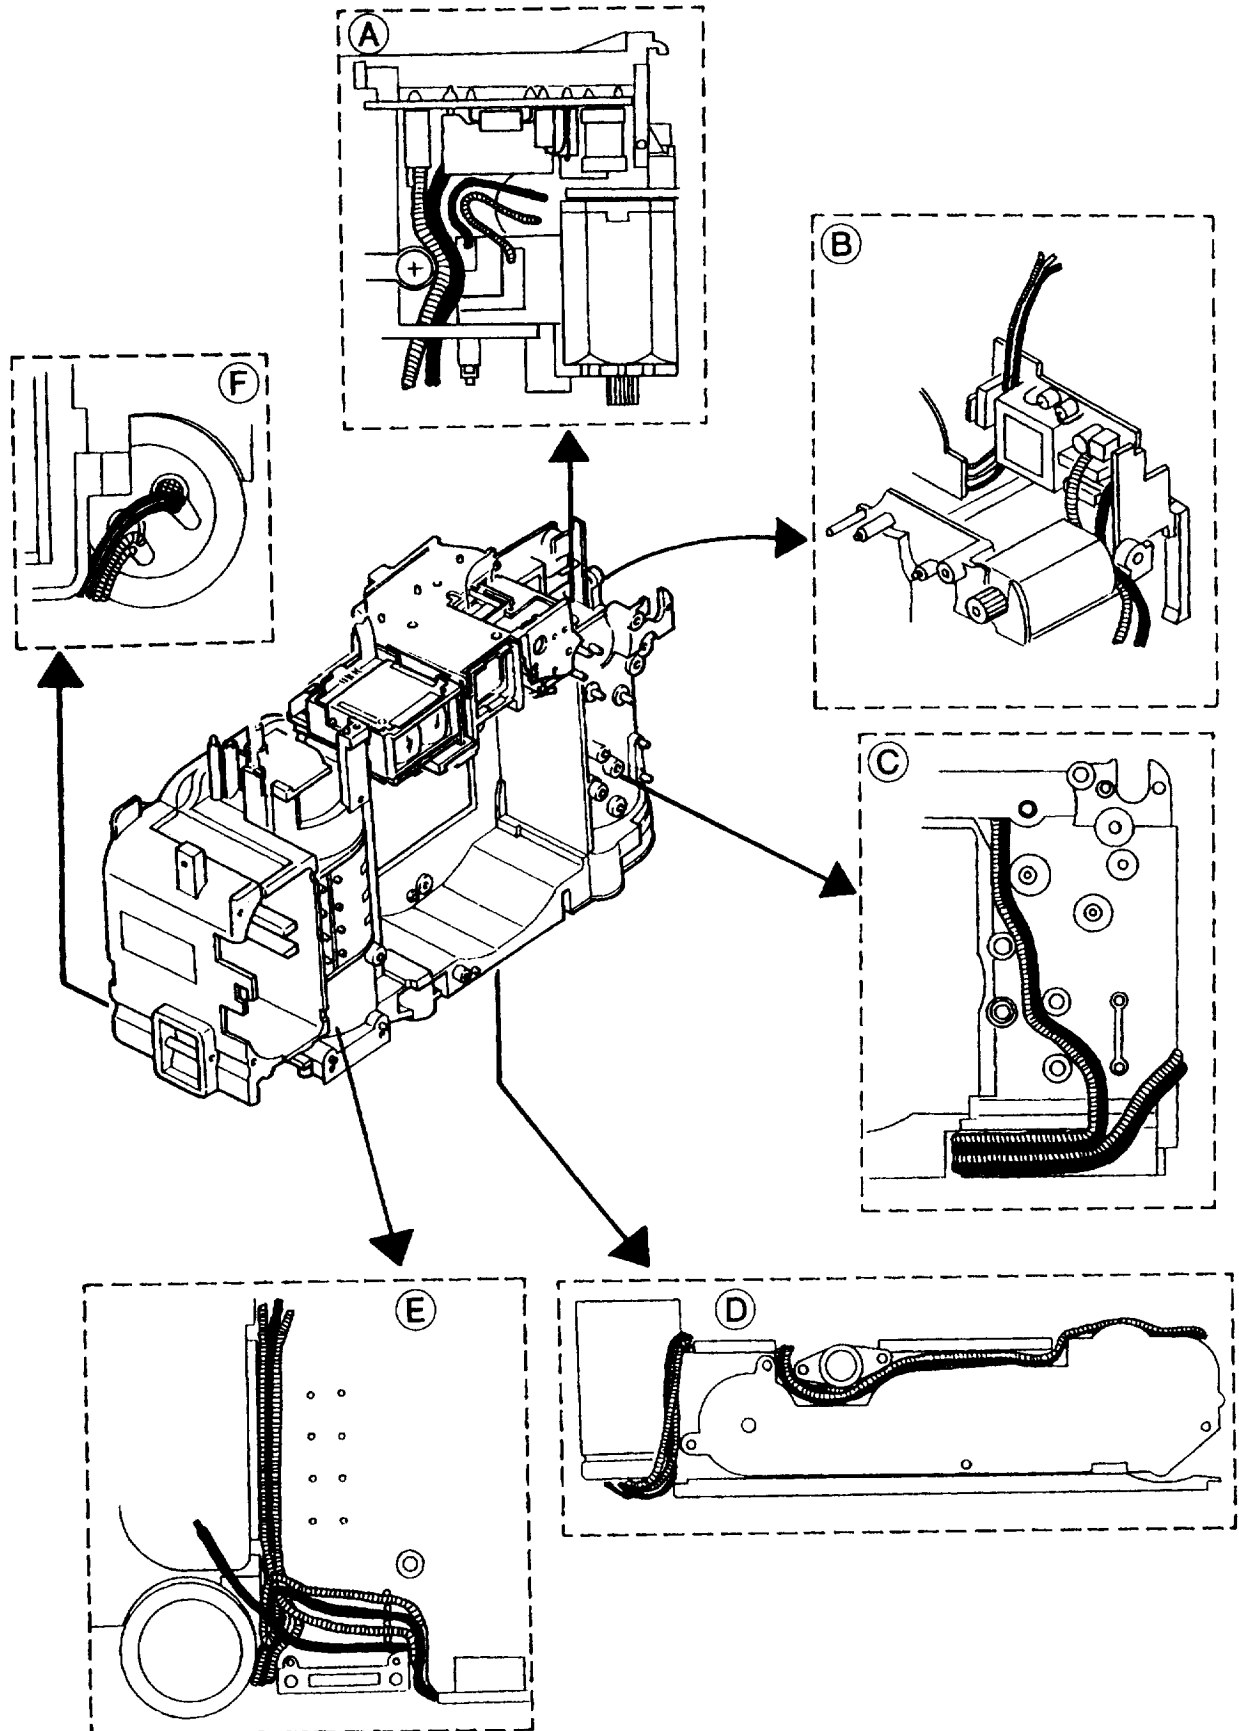

Fig35
- (5) Arrange the LEAD WIRES as shown in Fig.35, (A), (B), (C), (D).
- (7) Set the MAIN CAPACITOR B (⑦) temporary.
- (8) Arrange the LEAD WIRES as shown in Fig.35, (D), (E), (F).